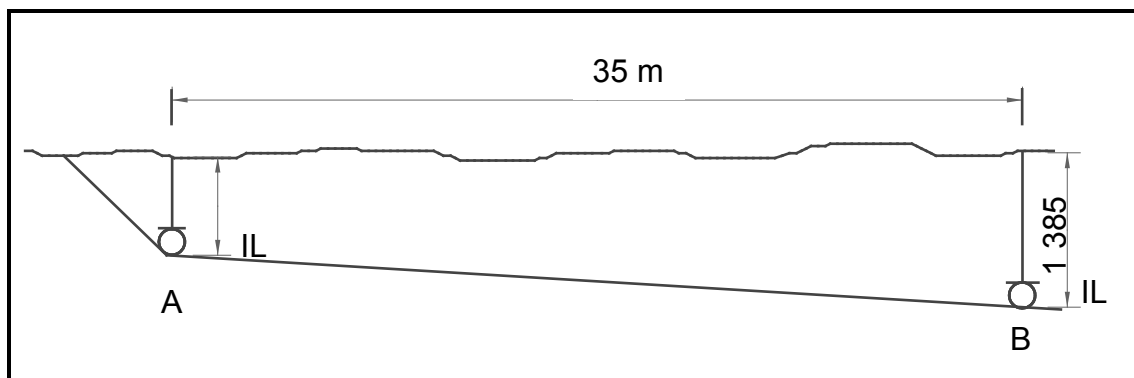

FIGURE 3.8
- 3.8 FIGURE 3.8 below shows the invert level of the sewer pipeline for a new house. The invert level of the pipeline at **B** is 1 385 mm and the pipe is 35 m long. The slope (fall) of the pipe is 1 : 40.